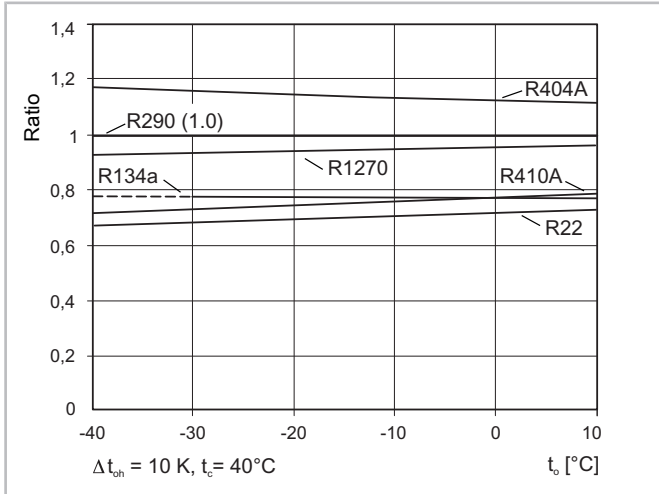

Fig. 6: Liquid volume flow of various refrigerants compared with R290 at identical refrigerating capacities
- Identical dimensions of the liquid line such as for R22 (higher liquid volume flow, but lower pressure drop due to lower density), see figure 6, page 22.